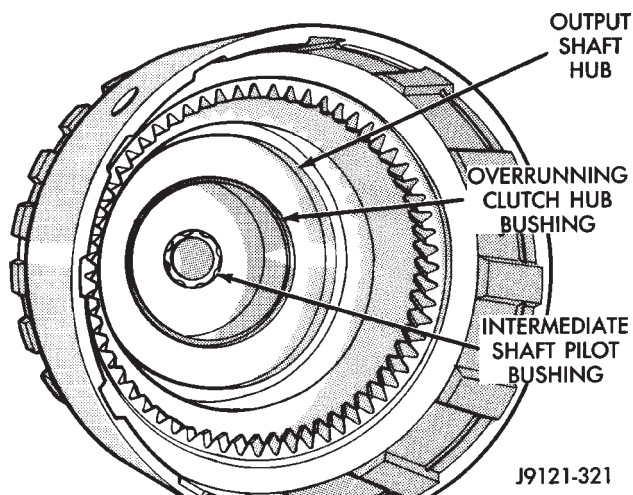

Fig. 37 Output Shaft Bushing Location
Inspect the output shaft bushings (Fig. 37). The small bushing is the intermediate shaft pilot bushing. The large bushing is the overrunning clutch hub bushing. Replace either bushing if scored, pitted, cracked, or worn.
(1) Lubricate geartrain components with Mopar ATF Plus or Dexron II™ transmission fluid.
(2) Soak direct and overdrive clutch discs in transmission fluid before installation.
(3) Install new pilot bushing and clutch hub bushing in output shaft if necessary (Fig. 37). Lubricate new (or old) bushings with petroleum jelly.